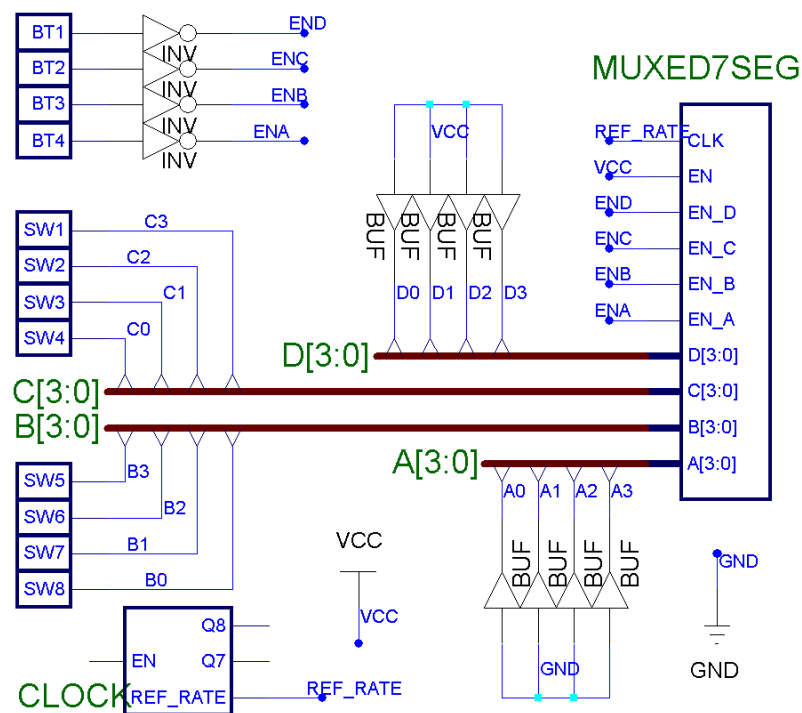

Figure 8.3: Testing Multiplexed Four Seven-Segment Displays Macro.
8. Create a macro of the design. It should look similar to MUXED7SEG macro given in Figure 8.3. The CLK input should provide the macro with the pre-calculated REF_RATE.
9. To test your MUXED7SEG macro, build a schematic similar to Figure 8.3. The least significant display should show zero as its input bus is connected to GND. On the other hand, the most significant display should show F as its input bus is connected to Vcc. The second and third least significant displays should show the value of switches (SW5 to SW8) and (SW1 to SW4) respectively. Buffers are added because you can not give two names to the same line.